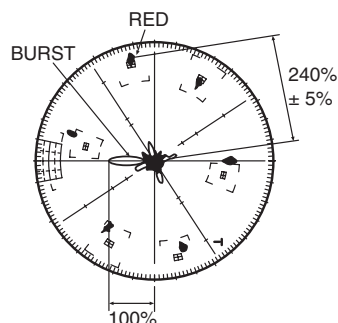

Fig. 6-5-1 Chroma Gain
6-5-3 Chroma gain adjustment (Figs. 6-5-1, 6-5-2, 6-5-3)
- 3) When using a vectorscope (Figs. 6-5-1, 6-5-2):